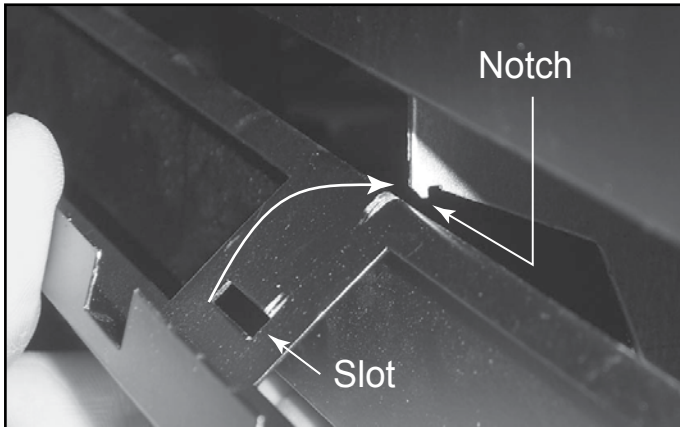

Figure 15.11 Attach Top Grill - Middle
- Swivel the top grill toward the unit and apply slight pressure downward and push forward until the notch locks into the slot. Refer to Figure 15.11.